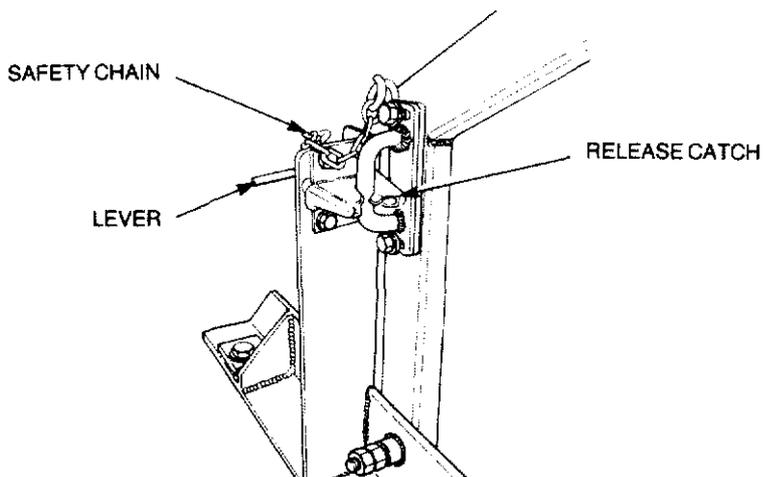

Figure 4-12 Bench release catch
- a. Ensure that the release catch (see Fig. 4-12) at the left hand bench support is in the detent position by pushing the bench towards the vehicle and the safety chain is connected to the bench.